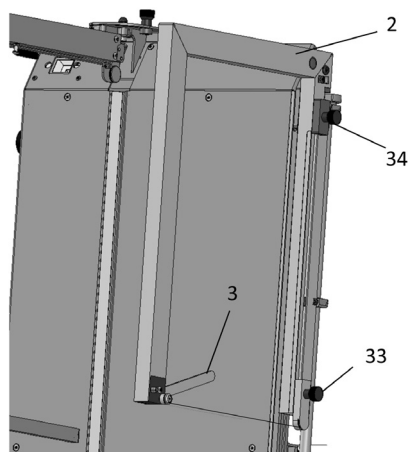

Fig. 8
- First transfer the angle dimension for the roof angle with an insulating panel (see mitre cuts) to the cutting wire of the corner cutter. To do so place the pre-cut insulating panel (mitre cut) on the bearing rails and move the corner cutter up to the angle. To transfer the angle, use the mitre tool on the corner cutter (Pos. 3, Fig. 8). The taken can also be transferred directly to the mitre tool on the corner cutter (Pos. 3, Fig. 8) using the sliding bevel.
- Then transfer the angle to the cutting wire: push the corner cutter back to the original position. Release the screw for the corner slider (Pos. 33, Fig. 8) and the wire tensioning slider (Pos. 34., Fig. 8), orient the wire diagonally so that it is parallel to the insulating panel and the mitre tool.
- Then tighten the screw for the corner slider (33) again.
- Tension the wire using the wire tensioning slider (34), then pull this up until the wire is sufficiently tensioned and lock the slider again.